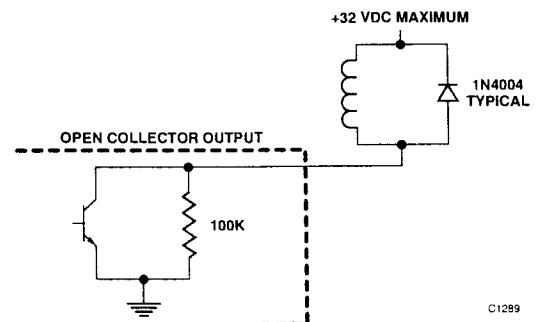

Figure 12—Open Collector Output with Inductive Load and Transient Suppression Device
**BASE CONTROLLER** – Connections to open collector transistor outputs are made at terminals 10, 12, 14, and 16. Terminals 9, 11, 13, and 15 are not used. See Figure 12 for an example of a typical connection to an open collector transistor output.
External equipment that can generate transients when switching (such as relays) **must have a transient suppression device** (diode) properly connected across the coil at the time of installation. This will safeguard the output transistors of the controller against possible damage. Figure 12 illustrates an inductive load with a diode used for transient suppression.